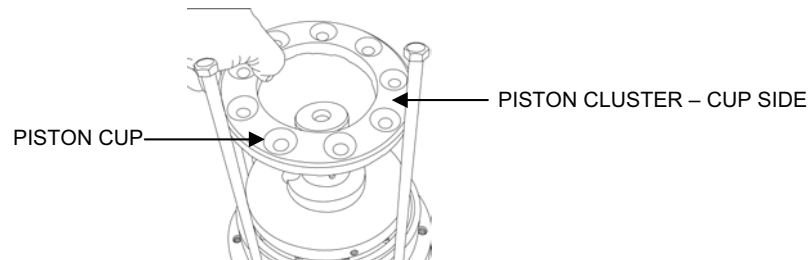

Figure 7. Piston Cluster Installation.
- d. Install the piston cluster onto the camshaft cup side up (see Figure 7).